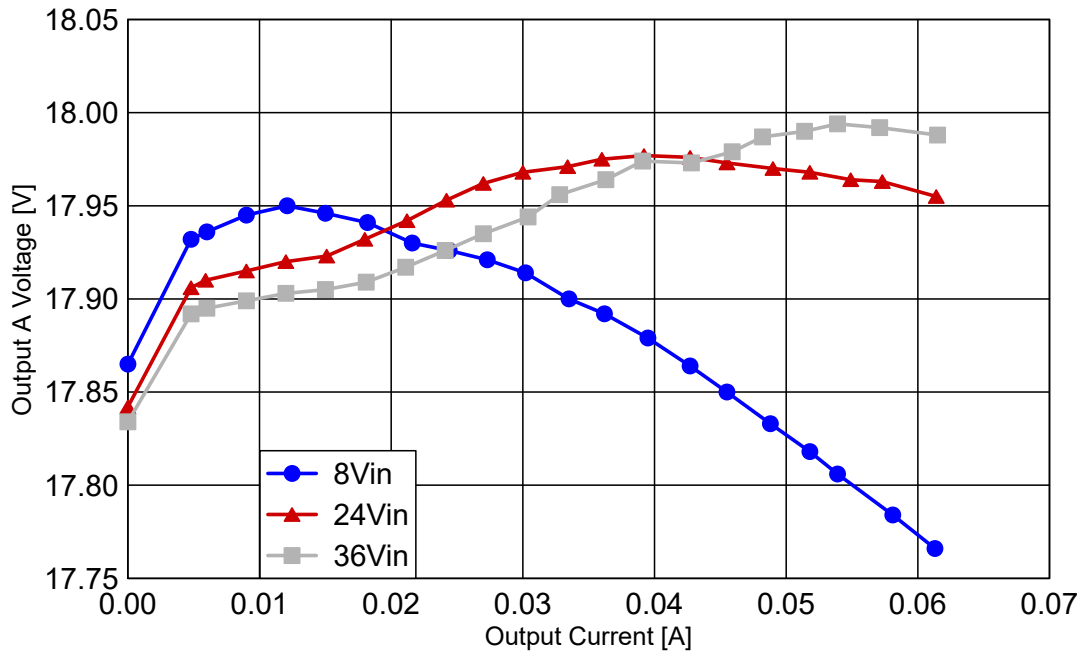

Figure 2-3. Load Regulation for 18-V Output Voltage
- (red curve) the according voltage values with symmetrically loaded outputs. (See also Figure 2-3).
- (red curve) the according voltage values with symmetrically loaded outputs. (See also Figure 2-3)